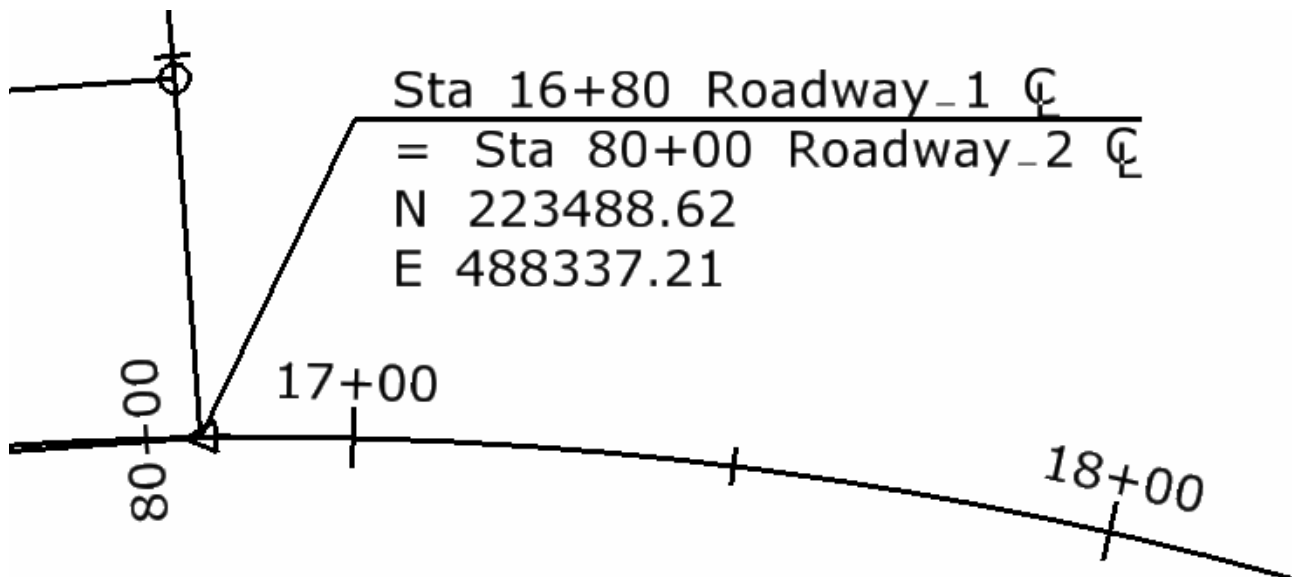

Figure 4-12 MicroStation Screen Shot of InRoads Generated Intersection Dat
- L. The text will now be interactive with the cursor. Click again to place the graphics at the desired location. Figure 4-12 displays a section of an annotated Intersection Alignment.